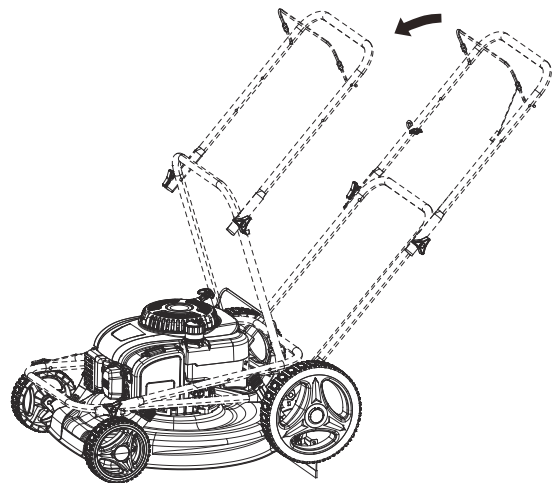

Fig. 19
1. Loosen the handle knobs until you can move the handle freely (Fig. 19 ).